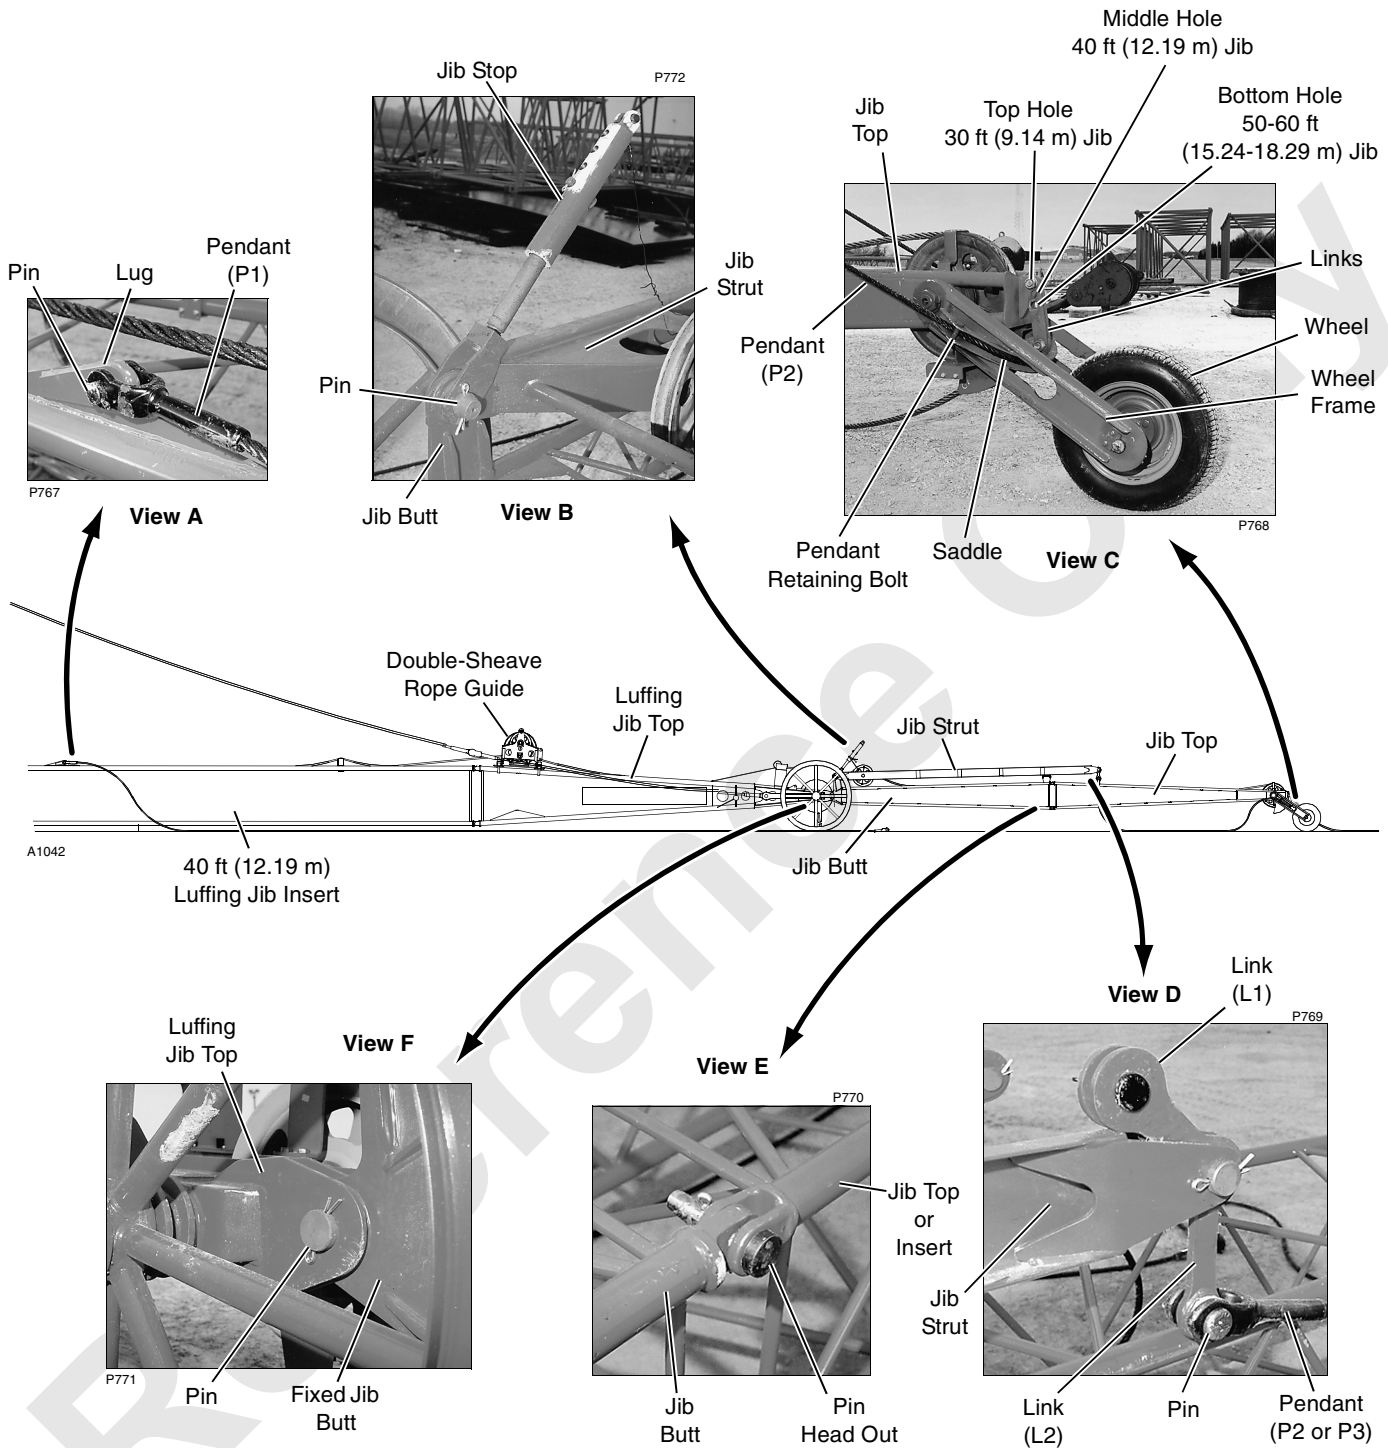

FIGURE 4-18
1. 40 ft (12.19 m) insert with jib backstay lugs installed next to luffing jib top as shown in Figure 4-18.
1. Boom and luffing jib fully assembled on ground as shown in Figure 4-18.
See Figure 4-18 for following procedures.